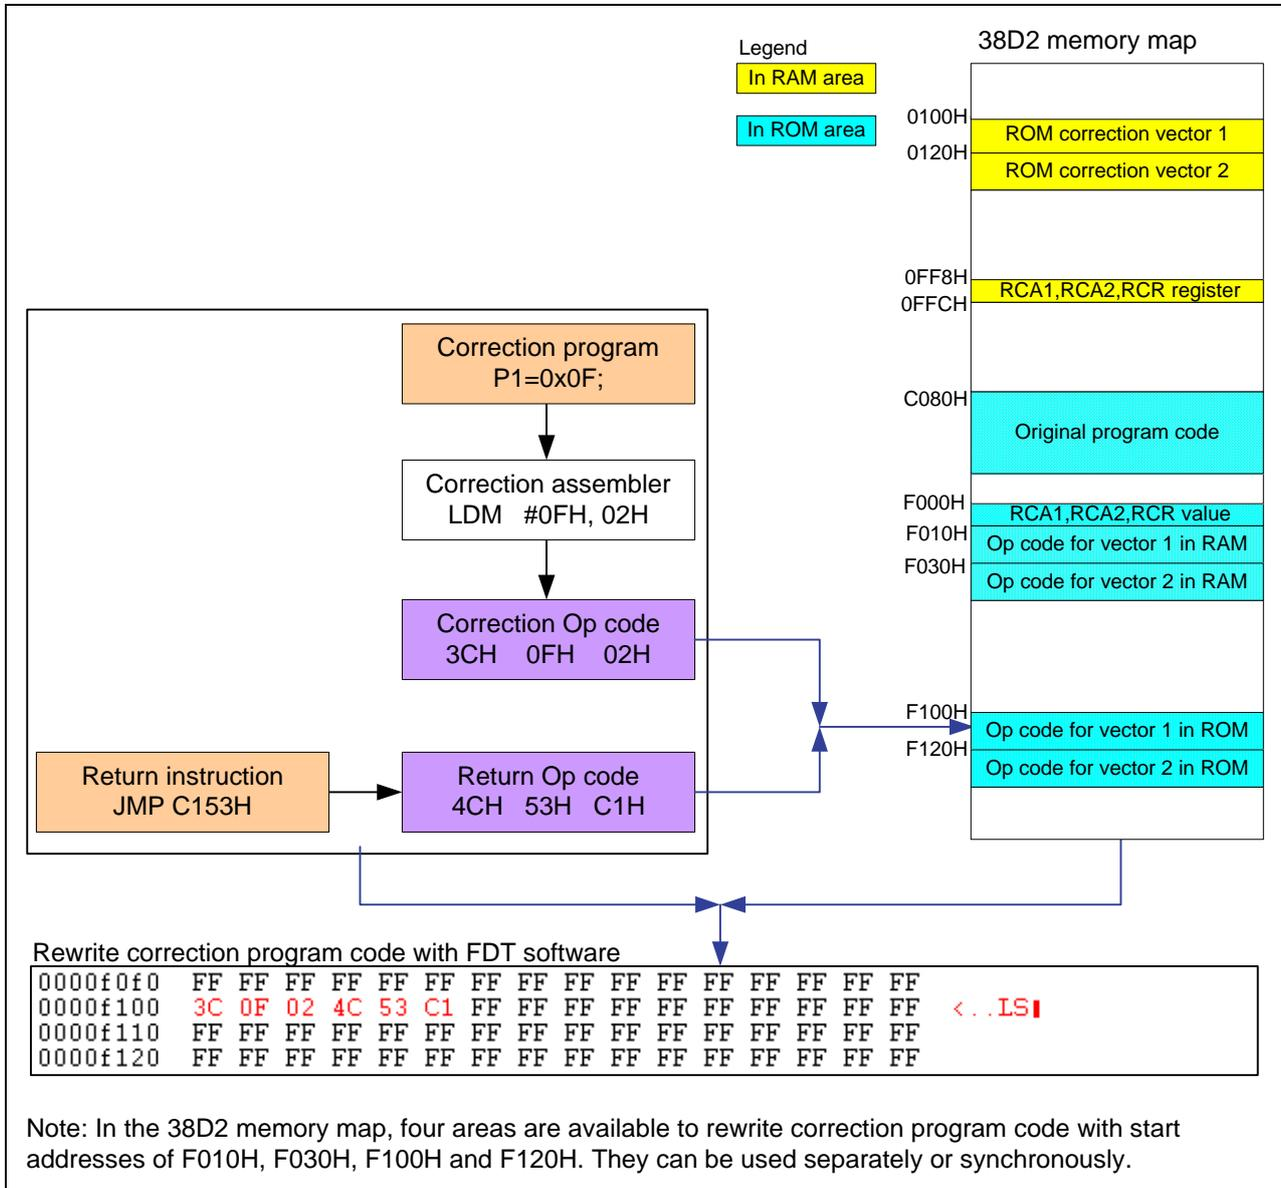

Figure 4 Correction Program Code
- In this example, ROM correction vector 1 in the ROM area is used and the correction program code is rewritten there. Note that the JMP instruction is necessary at the end of the correction program code so the program counter (PC) can return to the original program from ROM correction vector 1. This process is shown in Figure 4.